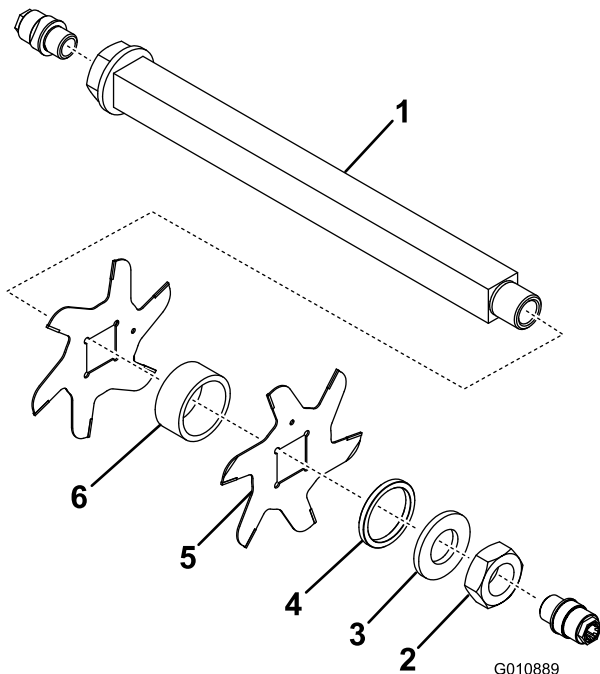

Figure 11
3. Remove the small spacer, the washer, the blades and the large spacers. Clean and lubricate the square shaft with a light coating of grease to simplify the assembly (Figure 11).